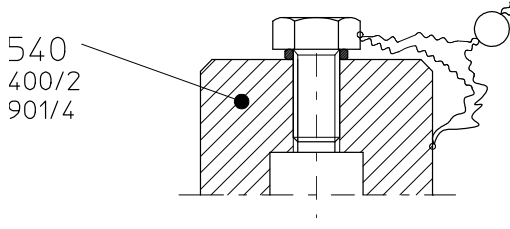

Fig. 10
- Design with blocking screw: Insert the O-ring **400/2**, screw in hex. screw **901/4** and lead-seal. See Fig. 10.